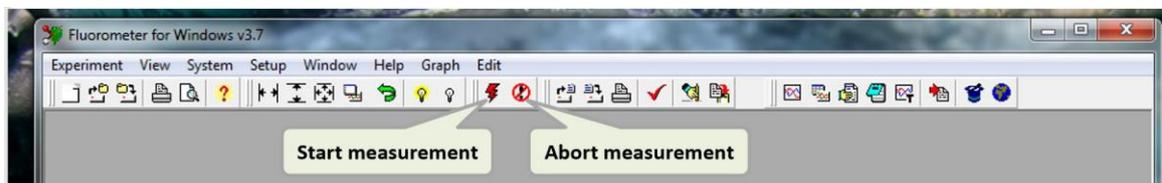

Fig. 28 Experiment start and abort.
- Selected protocol can be started with **Start** icon (red flash). If the Start icon is grey, it signals that the instrument is not connected. To stop already started protocol is possible with **Abort** icon (Fig. 28).